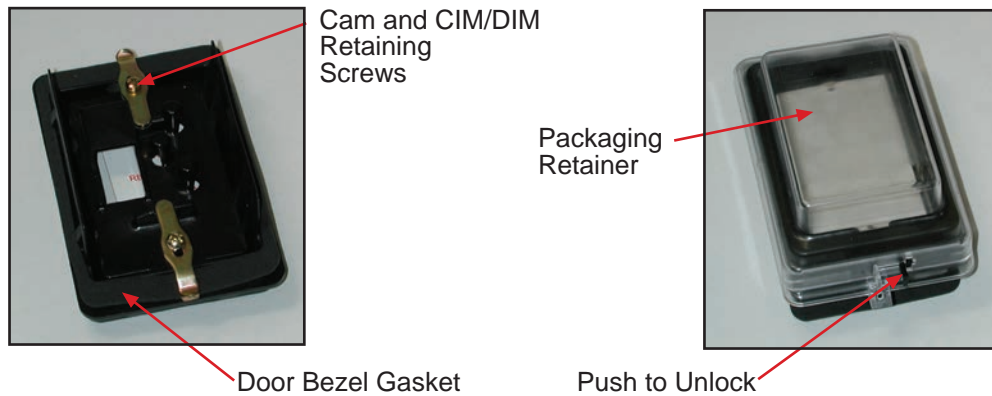

Figure 3.
7. Insure that the internal door bezel gasket is assembled evenly around the CIM/DIM pocket. See Figure 3.
10. Ensure that the external door bezel gasket is evenly placed around the mounting edge of the door bezel. See Figure 3.